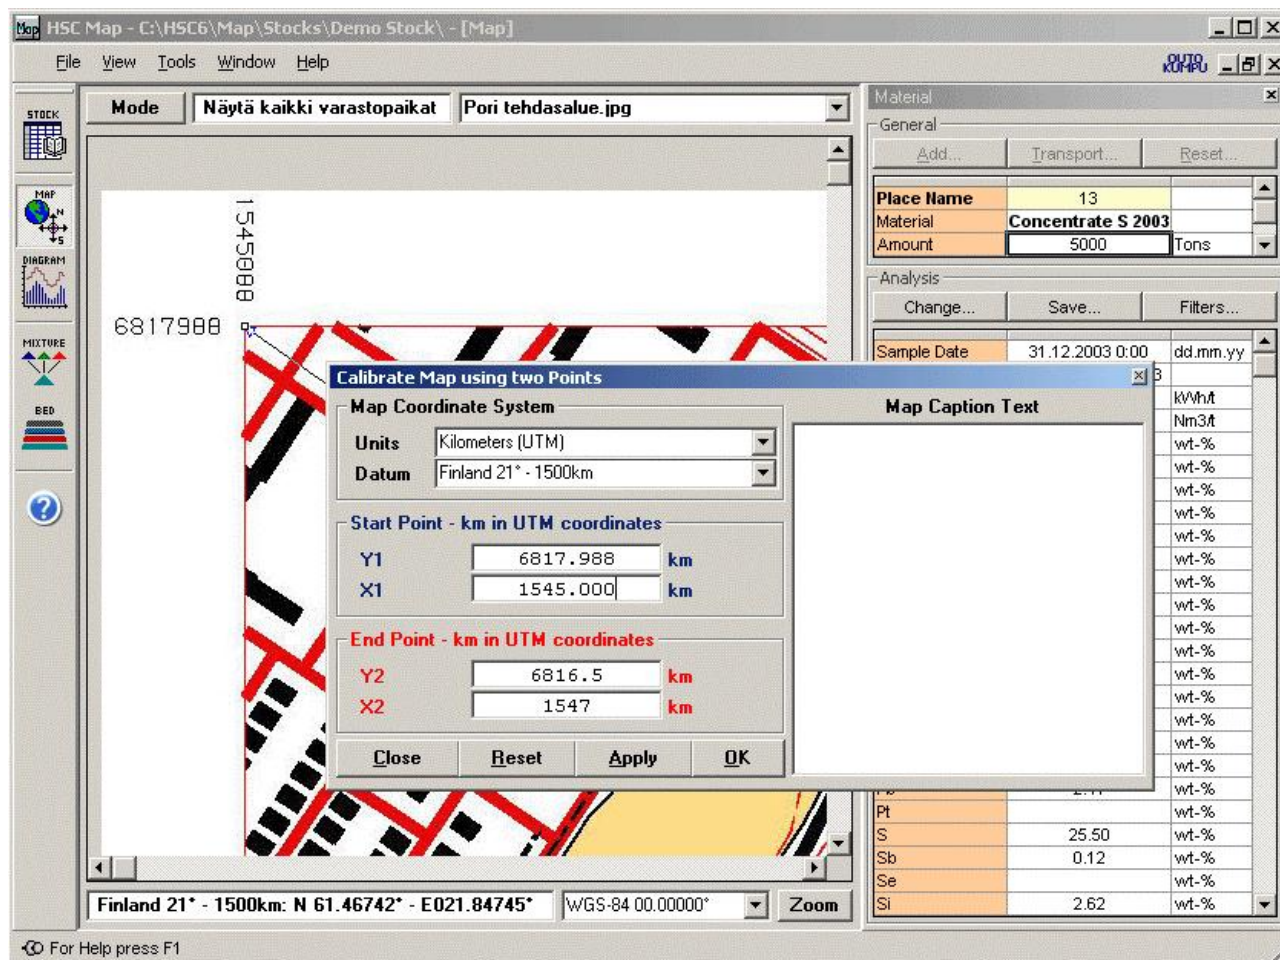

Fig 10. HSC Map calibration dialog. The Map may easily be calibrated by setting the Start and End points of the calibration line.
The Map Calibration dialog is shown in Fig. 10. The basic procedure is:
2. Move the calibration line Start and End points to the location for which coordinates are available. You may use map grid points as in Fig. 10. or you may select two objects (house, crossroad, border, etc.) from the map whose coordinates you have measured with the GPS navigator. You may scroll map using mouse right button or mouse wheel.